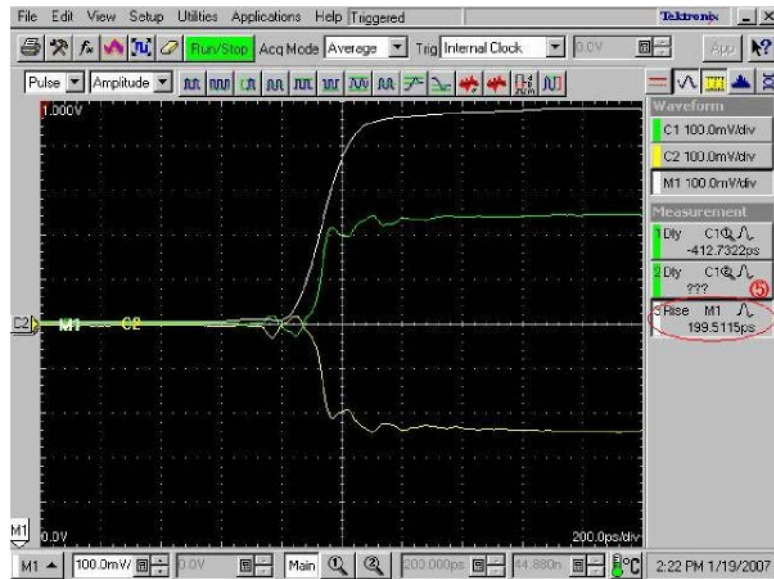
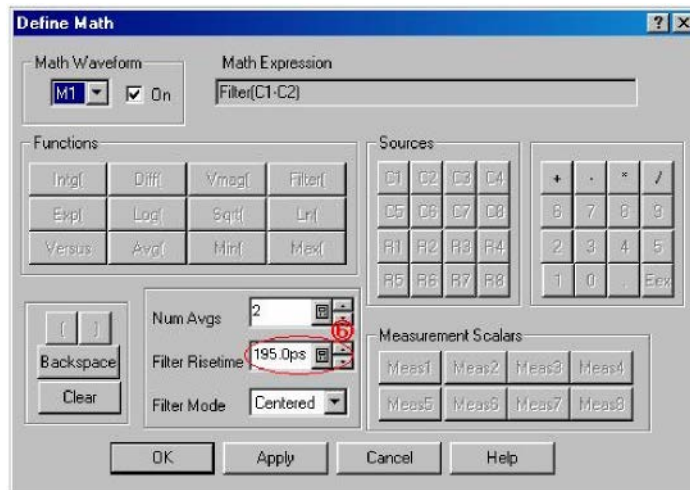

Figure 7: Adjusting the rise time
Figure 8: Changing the Filter Risetime value
- For **Differential mode**, adjust the rise time so that the reading of ⑤ in Figure 7 is 200 ps by changing the **Filter Risetime** value (see ⑥ in Figure 8). If you cannot adjust the value to 200 ps exactly, set it to the nearest value below 200 ps.
- For **Common mode**, adjust the rise time so that the reading of ⑤ in Figure 7 is 600 ps by changing the **Filter Risetime** value (see ⑥ in Figure 8). If you cannot adjust the value to 600 ps exactly, set it to the nearest value below 600 ps.
1. From the TDR menu, set the pulses into differential mode using the 200ps rise time filter setup as shown in Figure 8.